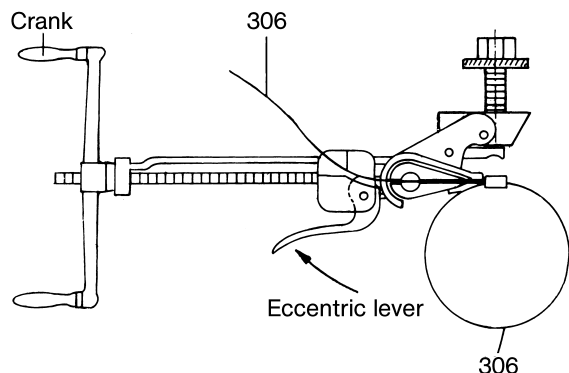

Figure 9: Clamping the clamping band by means of clamping tool Band-It and adapter J050.
- Introduce band end of the clamping band (306) against the clamping band buckle into the clamping tool with adapter.
- Hold clamp end with the eccentric lever of the clamping tool, and clamp clamping band (306) by turning the crank (Figure 9).